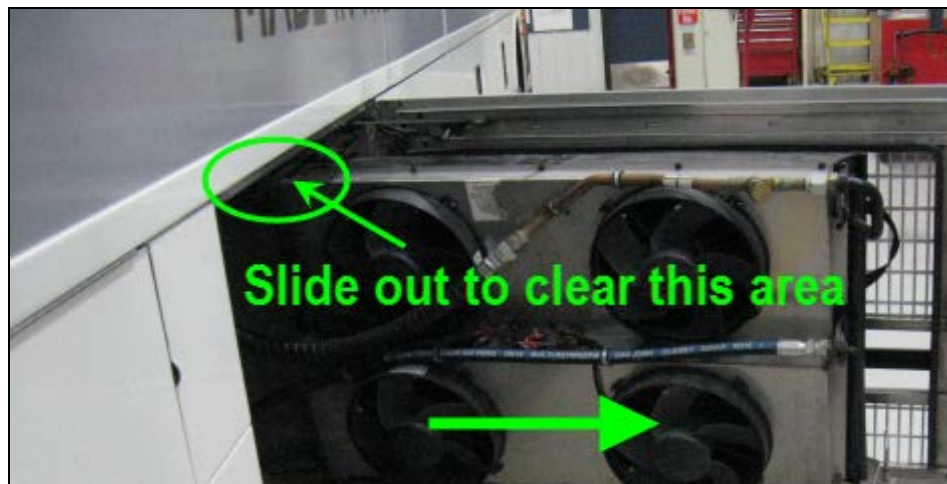

Fig.13
8. Pull away the condenser from the vehicle to allow sufficient clearance on the condenser top to install the reinforcing plate supplied in the kit (Fig.13).